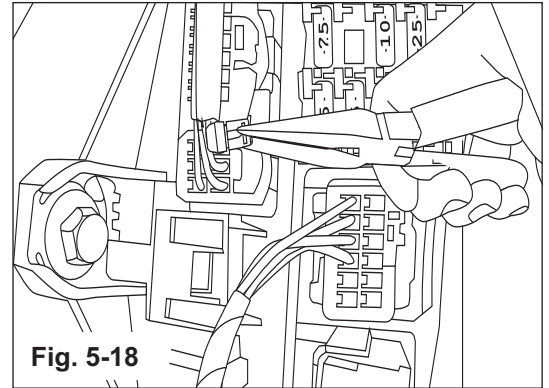

Fig. 5-18
- b) Attach wire tap connector to the **Green / White-Striped** wire in pin **OA** of the 6-pin connector. (Fig. 5-18)